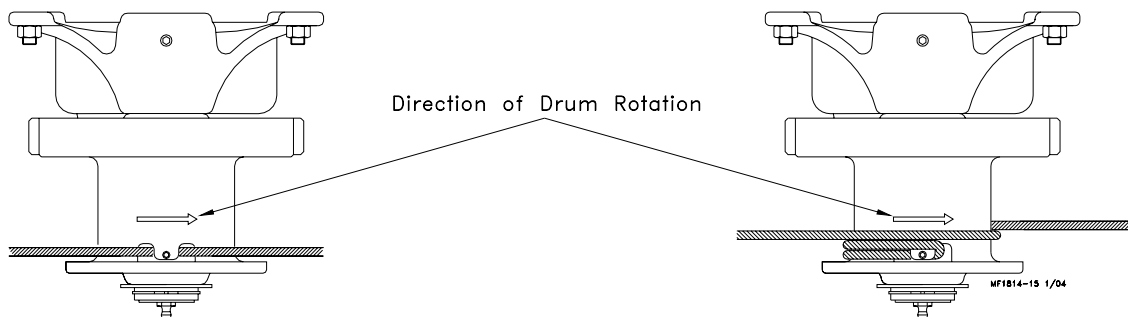

Figure 13. Cable Installation & Wrap
4. Wrap the cable through the winch drum relief located near the bottom of the drum. Tighten the set screw to anchor the cable to the drum, **see figure 13**.
5. Turn the winch drum one full revolution. Guide the cable against the flange at the bottom of the winch drum. The cable must not wrap over itself on the drum, but should be wrapped as close as possible to each previous wrap, **see figure 13**.